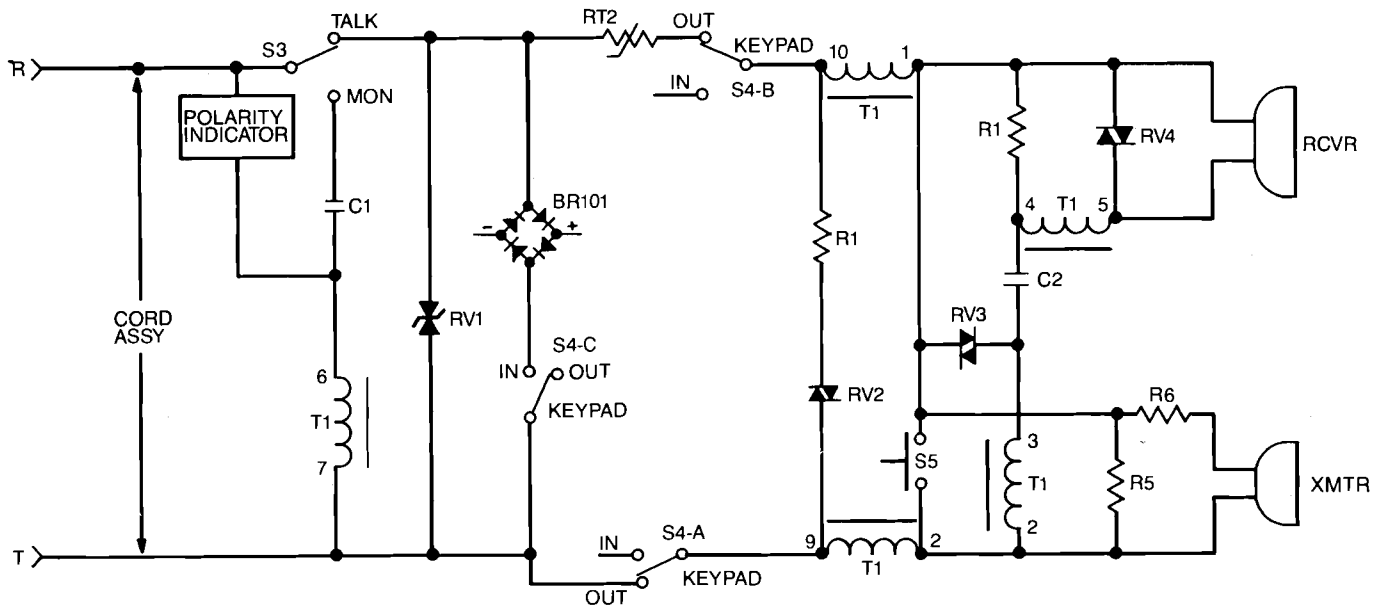

Fig. 8 - Condensed Functional Schematic of TS21 Test Set (Long or Dry Loop Mode)
5.01 The TS21 Craft Test Set provides the means for communications and testing in the central office as well as in the field. The various models offer a variety of options to meet different operating conditions. A circuit schematic of all the models is shown in Figure 8.
5.12 Transmission Path (Figure 8): With the **KEYPAD IN/OUT** switch in the **OUT** position and the **TALK/MONITOR** switch in the **T** position, a talking path is established from the tip conductor to the ring conductor via the following components and circuits: S4 (section A) **KEYPAD IN/OUT** switch, transmitter/receiver circuit, S4 (section B) **KEYPAD IN/OUT** switch, RT2, and S3 (TALK position) **TALK/MONITOR** switch.